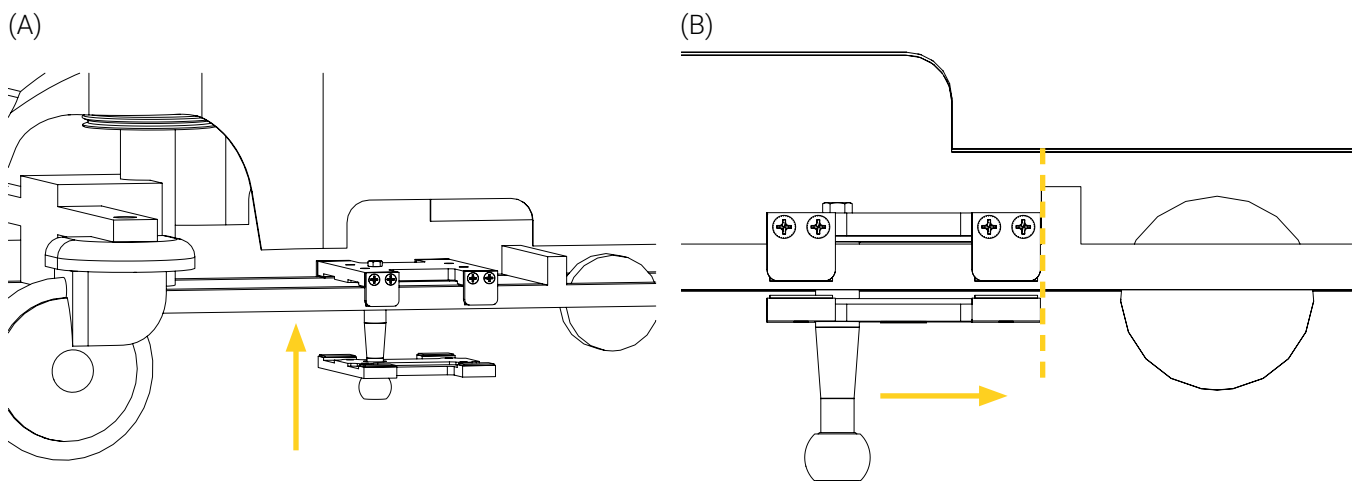

Figure 31: Inserting the Foot End Anchoring Hitch on the stretcher frame
6. Insert the bottom plate of the Foot End Anchoring Hitch inside the stretcher frame (Figure 31 A).
7. Join the top and bottom plates together, slide them on the stretcher frame until they are pressed against the directional wheel (Figure 31 B).